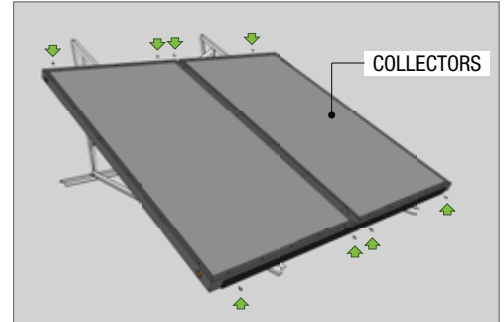

Fig 5
9. Secure the collector panel/s into position by screwing through the mounting rail and into the collector/s using the supplied screws (Fig 5)